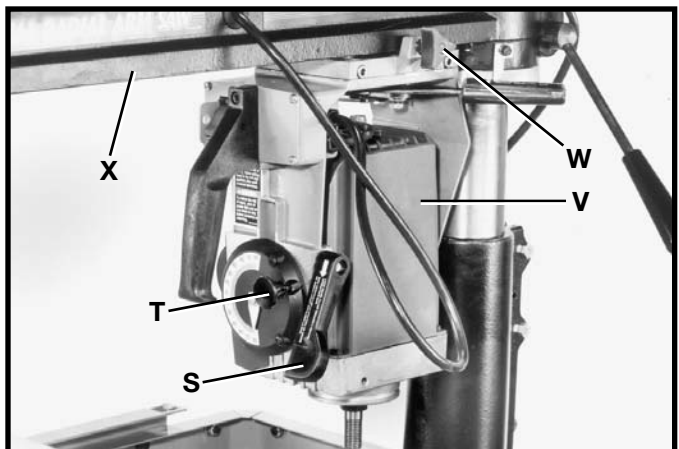
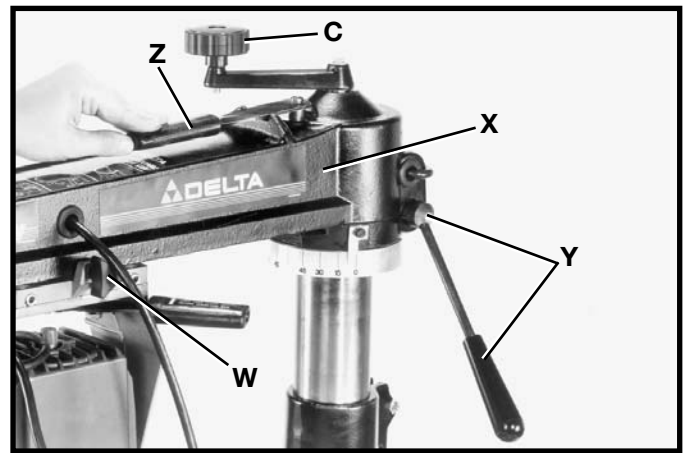
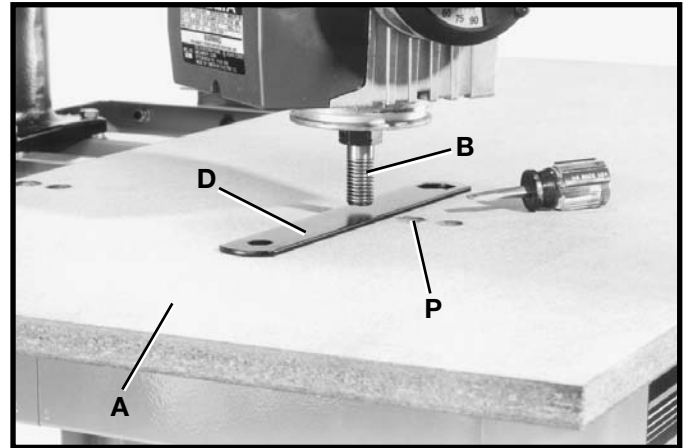

Fig. 23
Fig. 24
Fig. 25
8. Loosen bevel clamp lever (S) Fig. 23, pull out bevel index knob (T), and rotate motor (V) to the vertical position as shown, until bevel index engages. Then tighten bevel clamp lever (S). **NOTE: If the motor shaft contacts the table board before the motor is fully rotated, raise the track arm (X) Fig. 24, by turning elevating handle (C).**
9. Loosen cutting-head clamp knob (W) Fig. 23, and move cutting-head to the front of track arm (X). Then tighten cutting-head clamp knob (W).
10. Loosen track arm clamp handle (Y) Fig. 24. **NOTE:** Track clamp handle (Y) has left handed threads. Press down on indexing release handle (Z) and pivot track arm (X) to the left until motor shaft (B) Fig. 25, is near front left adjustment screw (P) of table board (A) as shown. Then tighten track arm clamp handle (Y) Fig. 24.
11. Place an arbor wrench (D) Fig. 25, between table board (A) and motor shaft (B). Lower track arm (X) Fig. 24, by turning elevating handle (C) counterclockwise until motor shaft (B) Fig. 25, barely touches arbor wrench.